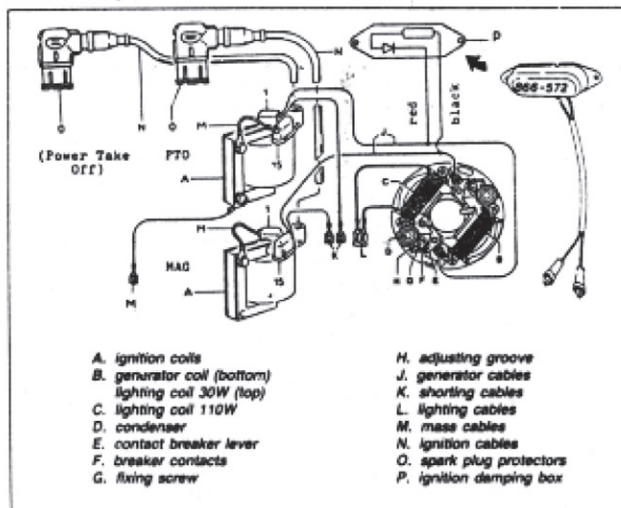

Figure 5—The Schematic Wiring of a Rotax Twin Cylinder Engine with Dampening Box.
**Dampening Box:** This box has a very important function. It is simply a resistor and a diode in series connected to an engine ground. If a fouled plug or similar malfunction occurs the 20,000 volts produced by the ignition to fire a plug has to go somewhere! This dampening box takes this voltage and transfers it harmlessly to ground. Without this function the voltage can either transfer to the secondary coils or the plug will fire at the wrong time. At this point detonation, backfiring, and general destruction of expensive engine parts can occur. If you disconnect the dampening box and the miss is eliminated this means the spark finds it easier to pass the resistance of the dampening box rather than to fire the plugs at the exact moment needed. This box is not to be removed for obvious reasons. Fouled plugs, incorrectly gapped plugs, broken or bad plug wires, or more commonly, excessive use of "radio noise suppression parts" are the cause of the miss. [See Figure 5 for the wiring diagram of the Rotax engine illustrating the dampening box and its function in the circuit.]